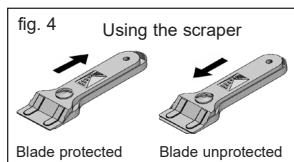

fig. 4 Using the scraper
**⚠ After you have finished with the scraper, withdraw the blade and lock it. (See fig. 4)**